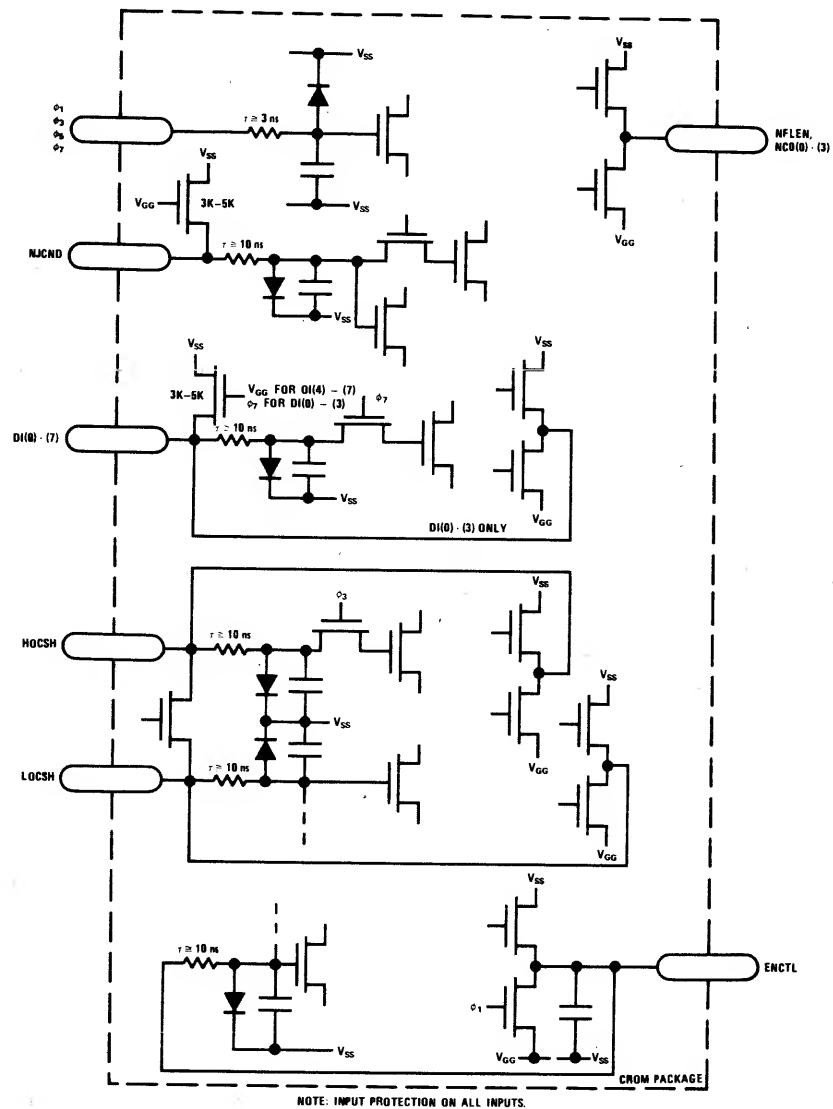

FIGURE 3. CROM Driver and Receiver Buffer
Note 1: Internal pullup provided for TTL inputs. Refer to Figure 3 and text.
Instructions to the CROM are transferred over the data input lines (DI(0) - DI(7)) into bits 0 - 7 of the CIR. (Bit 8 of the CIR is loaded from the NJCND input.) Data input occurs at T_7 . As with all TTL inputs on the CROM a 3k - 5k pull-up is provided on the chip to insure an adequate logic "1" level (see Figure 3). The pull-up is provided by an MOS transistor which is turned on during the data input interval (T_7). Signal lines DI(0) - DI(3) are also used to output a 4-bit address to the control flags and jump conditions. This address output becomes valid during T_1 and must be stored in an external latch at the end of T_1 .